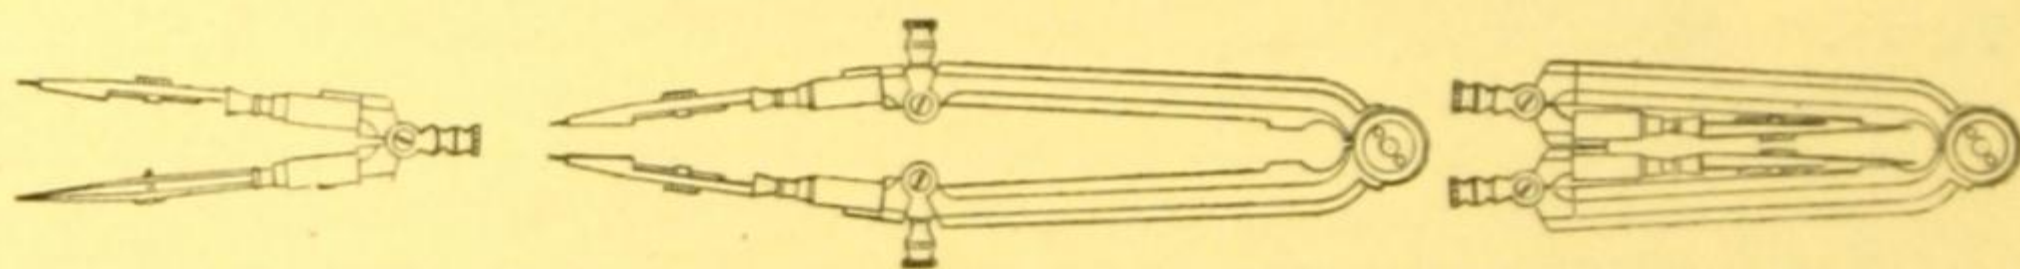

Fig. 172. Pillar Compass closed, extended and showing one bow.
- SM 684.—**Pillar Compass** is a little less portable than the Napier Compass and forms a very complete set of English electrum needle pointed instruments comprising a 5-inch Compass with double knee joints, pen, pencil and divider points; Bow Pen and Bow Pencil. When fully extended it will describe a circle 14-inches diameter and the bows are useful for small work. When folded it is  $3\frac{1}{2}$ -inches long. With case Fig. 172 £2 15 6